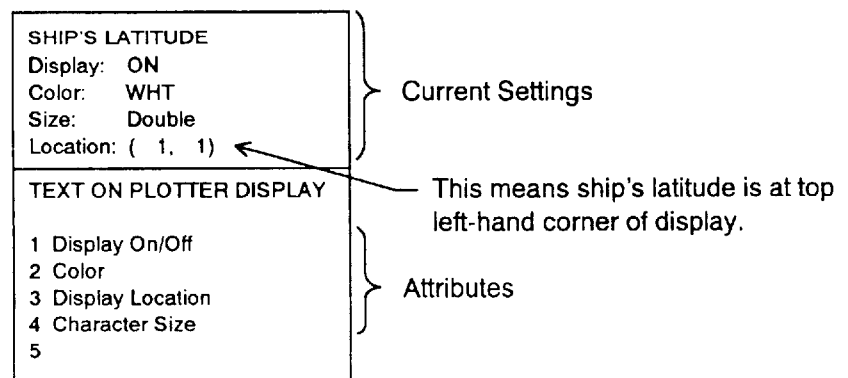

Figure 8-4 **TEXT ON PLOTTER DISPLAY** menu, ship's latitude
- 3) Select the text you want to change. For example, press **1** to select "Ship's Longitude" (on first page). The menu shown in Figure 8-4 appears.